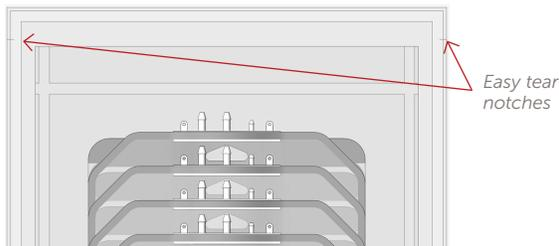

Figure 3. Easy tear notches
2. There are two sealed bags protecting the Aramus assembly. To open the outer bag, grip the side of the protective packaging bag and use the "easy tear" notches, Figure 3, to pull in opposite directions, allowing the top section and main body of the packaging to separate and subsequently open the bag. Repeat this procedure to open the inner protective package.